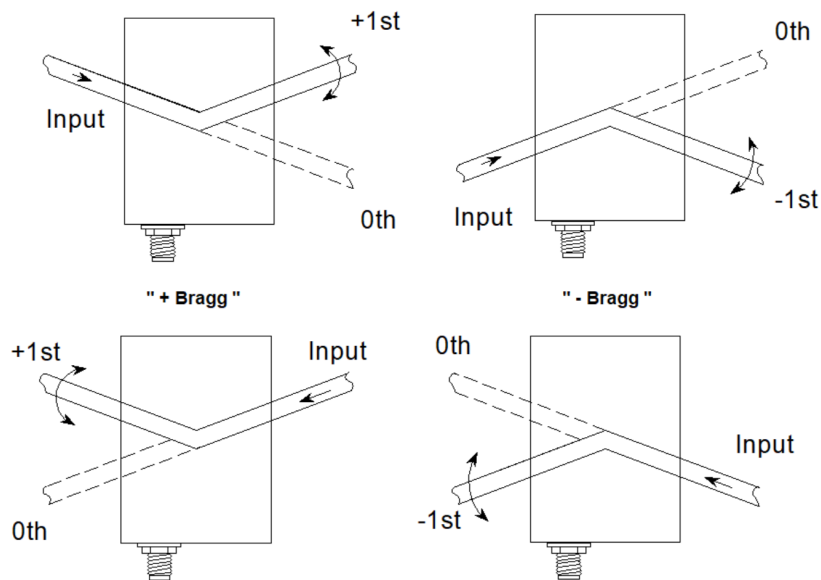

Figure 4: Connection orientations
3.11 Start with the laser beam normal to the input optical face and very slowly rotate the AO device. Direction is related to the RF connection order. See Figures 4 & 5 for possible configurations.